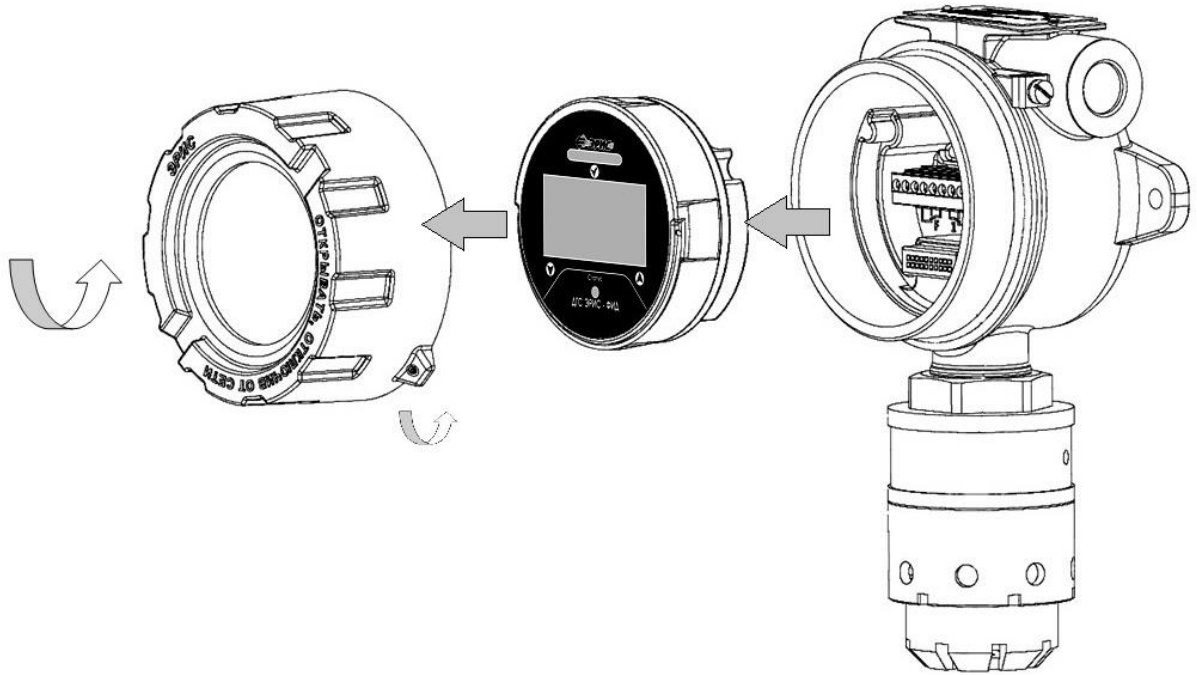

Figure 17– DGS ERIS-230 disassembling diagram
- a) Screw off lock screws in the gas detector cover (Figure 17).